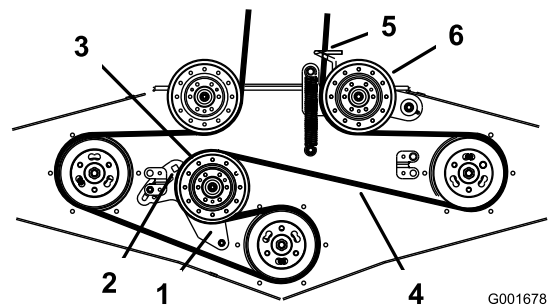

Figure 45
4. Loosen the fixed idler arm and adjust it to relieve the belt tension on the fixed idler pulley (Figure 45).
6. Install the new belt through the belt guide and on the pulleys (Figure 45).